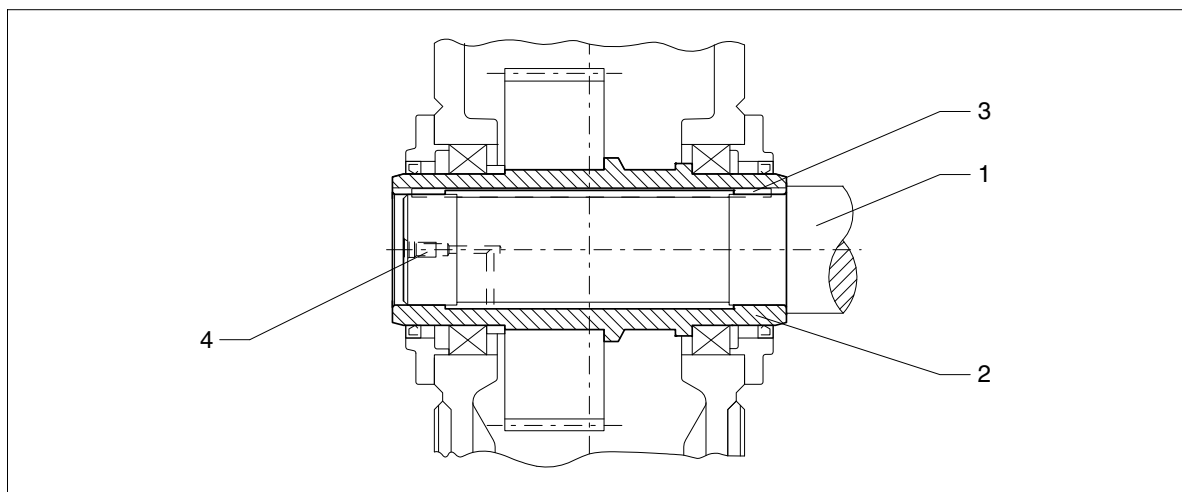

Fig. 41: Hollow shaft with parallel keyway, preparation
To facilitate demounting (see also item 6.4.3), we recommend providing a connection for pressure oil on the end of the driven machine shaft. For this a hole must be drilled through to the hollow shaft bore (see fig. 41). This connection may also be used for supplying rust-releasing agent.
- If frictional corrosion has occurred on the seating surfaces, rust-releasing agent may be used in order to facilitate forcing off the gear unit. The rust releaser can be injected through the pressure-oil connection (see Fig. 41), e.g. using a pump.